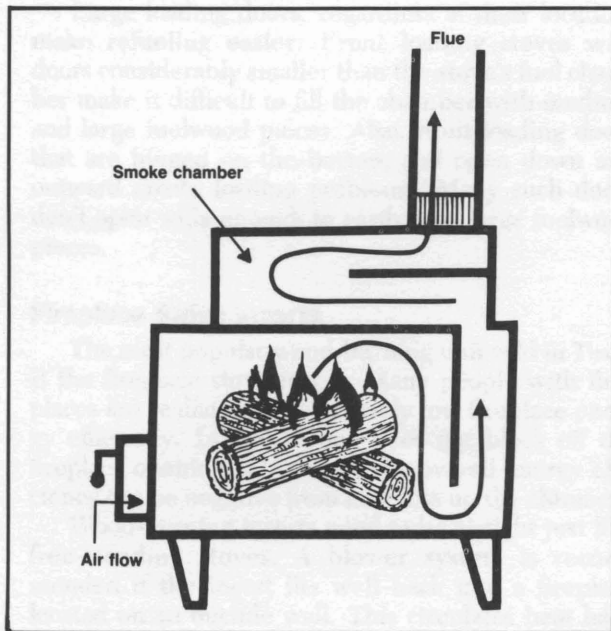

Figure 1. Smoke chambers result in more complete heat transfer, improving energy efficiency.
Smoke chambers (figure 1) improve heat transfer and increase efficiency 5 to 10 percent, reducing fuelwood consumption 10 to 20 percent. Increasing exposed stovepipe length or using an interior, exposed, uninsulated chimney (uninsulated pipe is not allowed by fire safety standards when going through a ceiling or roof) also increases the system's net energy efficiency. However, the cooling effect of the stovepipe and exposed, uninsulated chimney increases creosote accumulation.
tight stoves use some form of baffling rather than a separate smoke chamber as shown in figure 1.
3. If fuelwood availability and cost are prime concerns, select a high energy-efficient stove. Those with smoke chambers (figure 1) or internal baffling (figure 2) usually have higher energy efficiencies. Also, check the availability of catalytic converter stoves.
that stoves use some part of burning rather than a separate smoke chamber as shown in Figure 1.